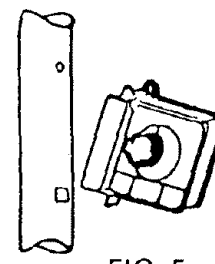

FIG. 5
3. Attach switch box to rear of upper handle tube. Place switch box tab (no hole) into rectangular hole (FIG.5). Position box against handle tube. Fasten using the small screw provided in the hardware package. DO NOT OVERTIGHTEN.